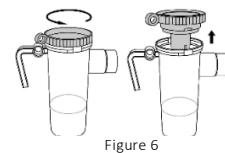

Figure 6
3. Open the top cover of the cup, turn the nebulizer core counterclockwise to remove. (Fig. 6)